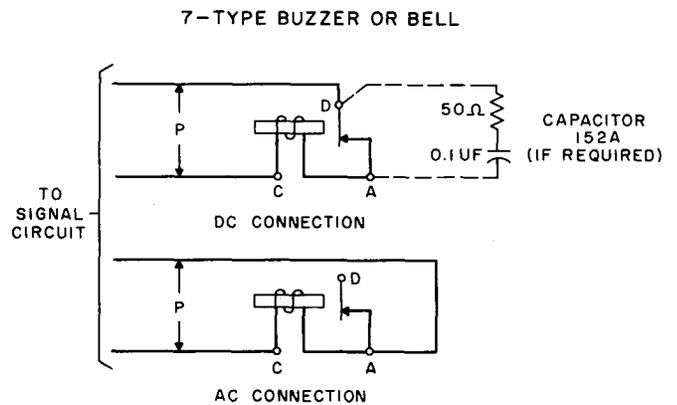

Fig. 4 - AC and DC Connections
3.05 Connect 7-type buzzers or bells as shown in Fig. 4.
3.06 Where radio frequency induction is caused by a sparking buzzer or bell contact, operating power should be ac and connections should be to the ac terminals. A 152A capacitor should be used across buzzer contacts when power supply is dc (Fig. 4).